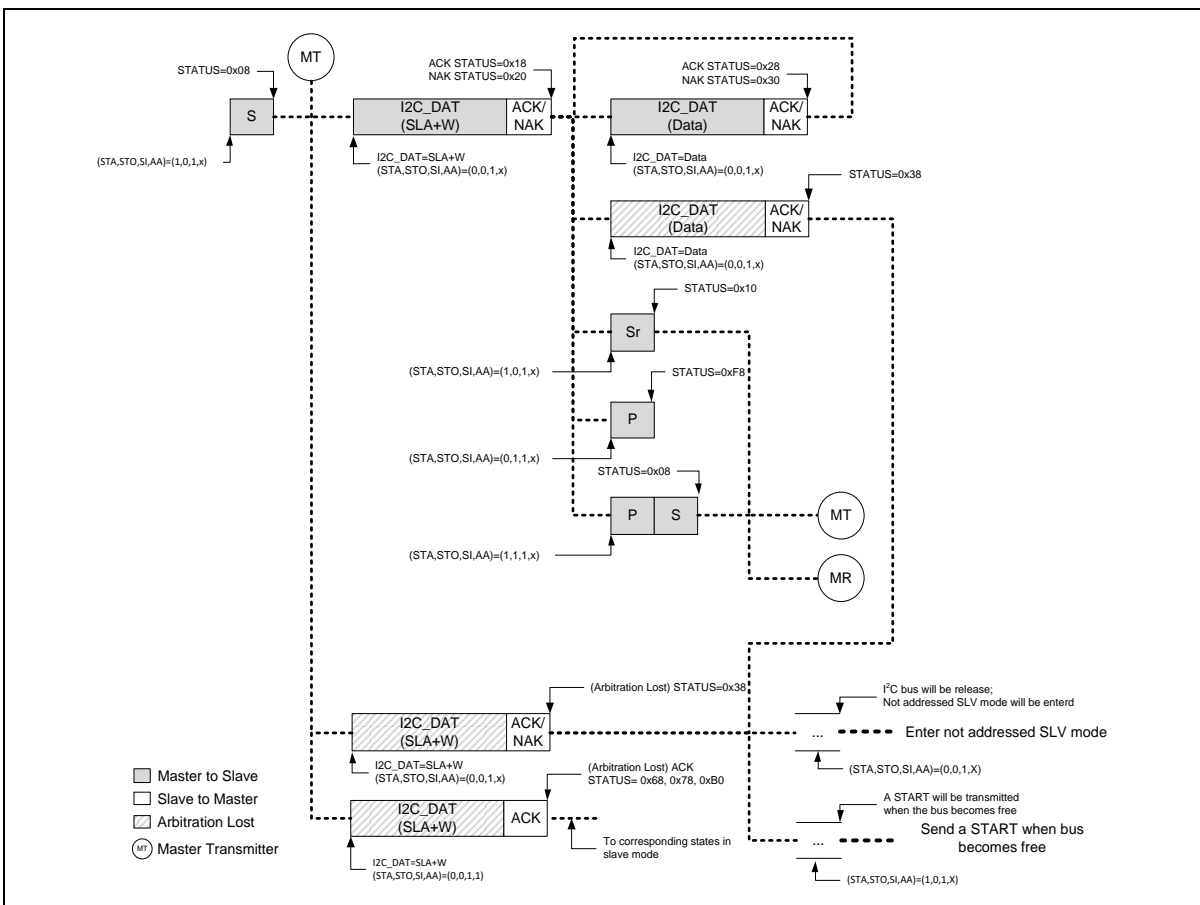
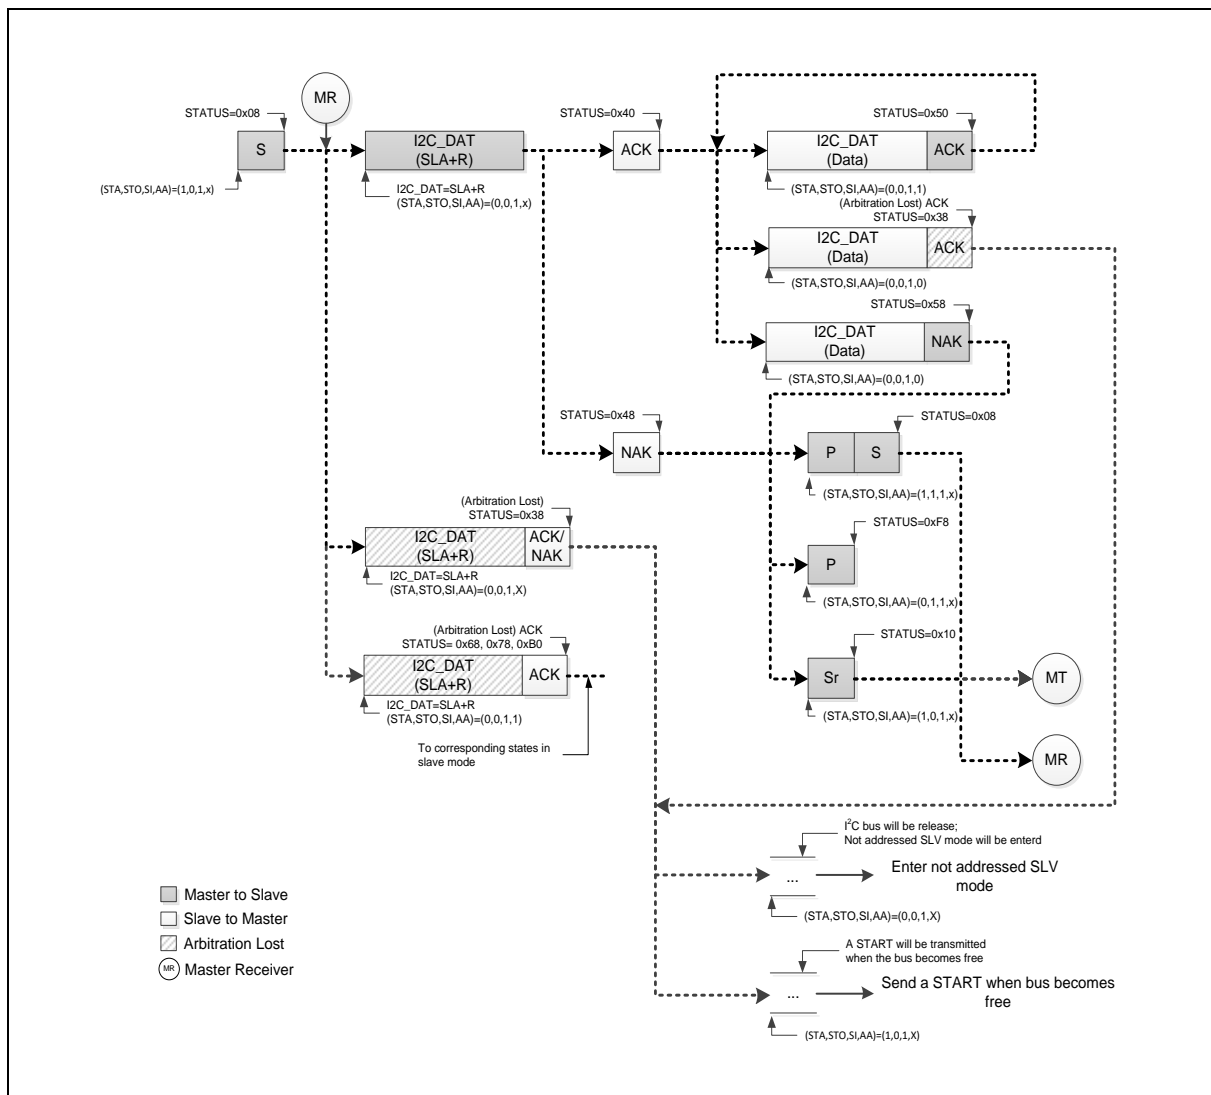

Figure 6.16-12 Master Transmitter Mode Control Flow
Figure 6.16-13 Master Receiver Mode Control Flow
In Figure 6.16-12 and Figure 6.16-13, all possible protocols for I²C master are shown. User needs to follow proper path of the flow to implement required I²C protocol.
In other words, user can send a START signal to bus and I²C will be in Master Transmitter (MT) mode (Figure 6.16-12) or Master receiver (MR) mode (Figure 6.16-13) after START signal has been sent successfully and new status code would be 0x08. Followed by START signal, user can send slave address, read/write bit, data and Repeat START, STOP to perform I²C protocol.